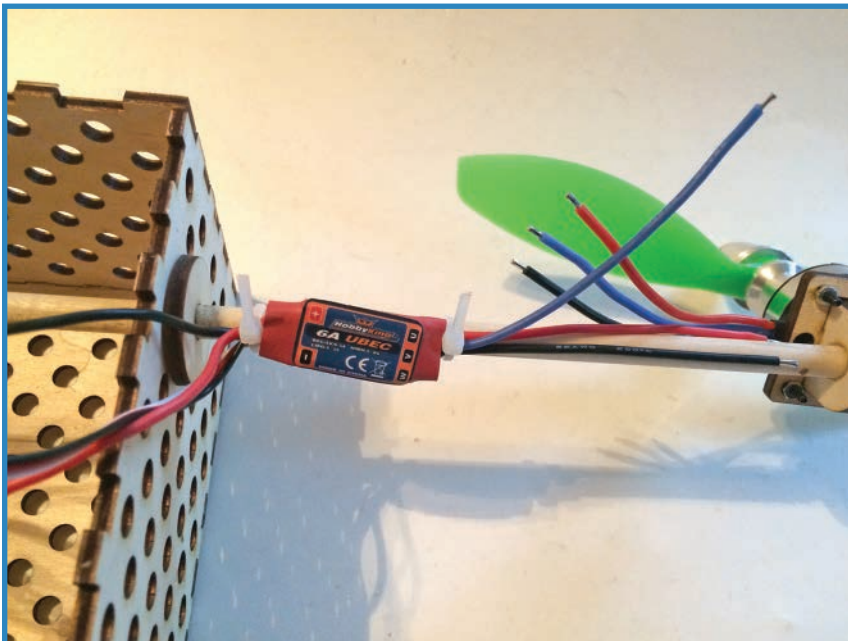

FIGURE 7.13 Zip-tie the ESCs to the dowel.
8. Attach the ESCs, zip-tying them to the dowel as you see in Figure 7.13, with the red and black power wires toward the gondola and the red-blue-black wires near the motors.